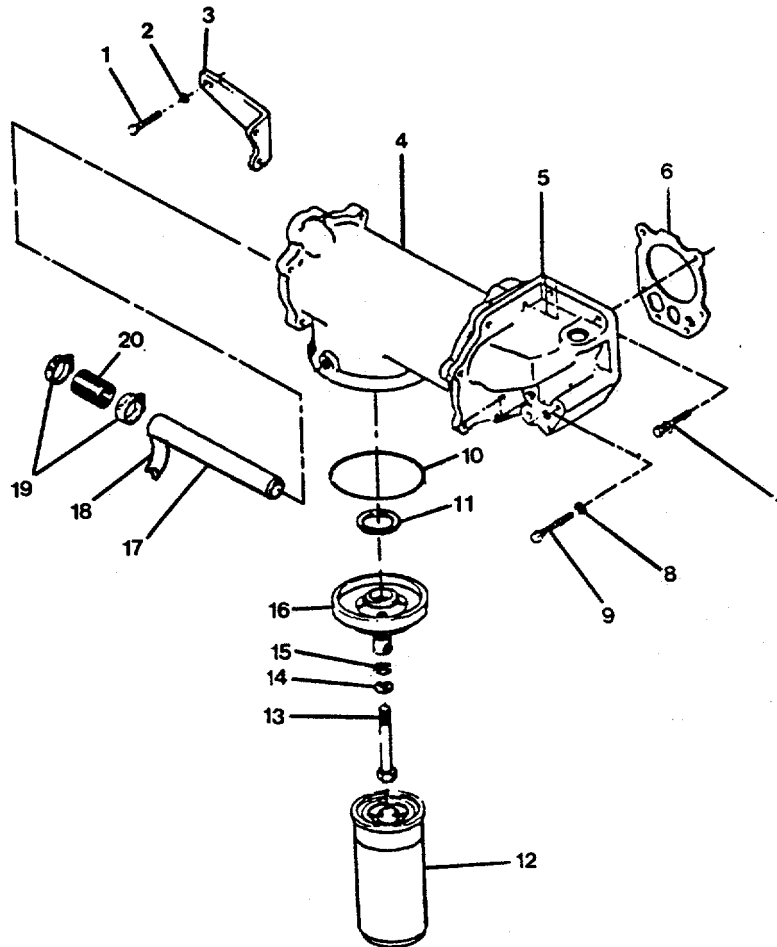

FIGURE 2-17. *Lubricating Oil Cooler/Filter Group.*
- e. Tighten the capscrews (3) and the screw (4) to the 35 ft-lb (47.4 N•m) torque.
- f. Install the preform packing and transfer tube to the top of the body (10) with the rim-clenching clamp (paragraph 2-28).
- g. Install the adjusting device (20) in the adjustment slot in the water pump body (10) and install lockwasher (12) and nut (11). Do not tighten the nut until the V-belt (25) has been installed.
- h. Install the capscrew (13) into the body (10). Turn the capscrew only a few turns.
- i. Install a new V-belt (25) and adjust. Refer to the Adjustment steps in this procedure.
- j. Install the belt guard (21) with capscrews (22), lockwashers (23) and flat washers (24).
**2-34. Replace/Repair Lubricating Oil Cooler/Filter Group. (Figure 2-17)**